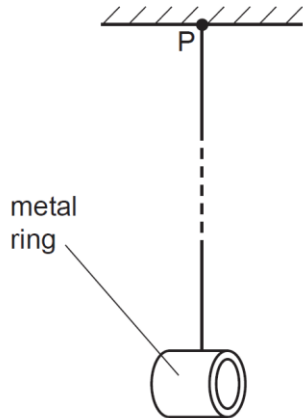

Fig. 4.2
- (b) A metal ring is suspended from a fixed point P by means of a thread, as shown in Fig. 4.2.